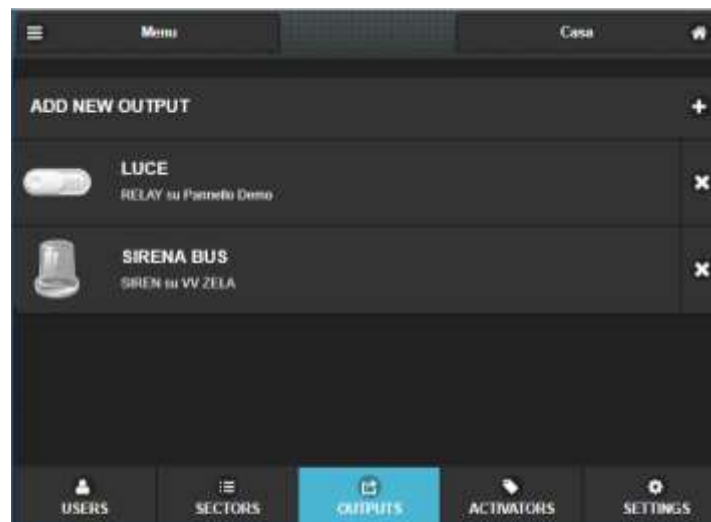

Figure 43 – Area: Outputs
- **OUTPUTS:** outputs associated to the Area. To add an Output (from the main board of the panel or from connected devices) press "Add New Output" and select it from the list (Figure 43).